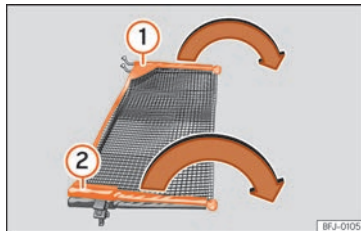

**Fig. 151** Deploying the net partition.
Extend the cross rods » **Fig. 151** ① and ② of the net in the direction of the arrows until it "clicks".